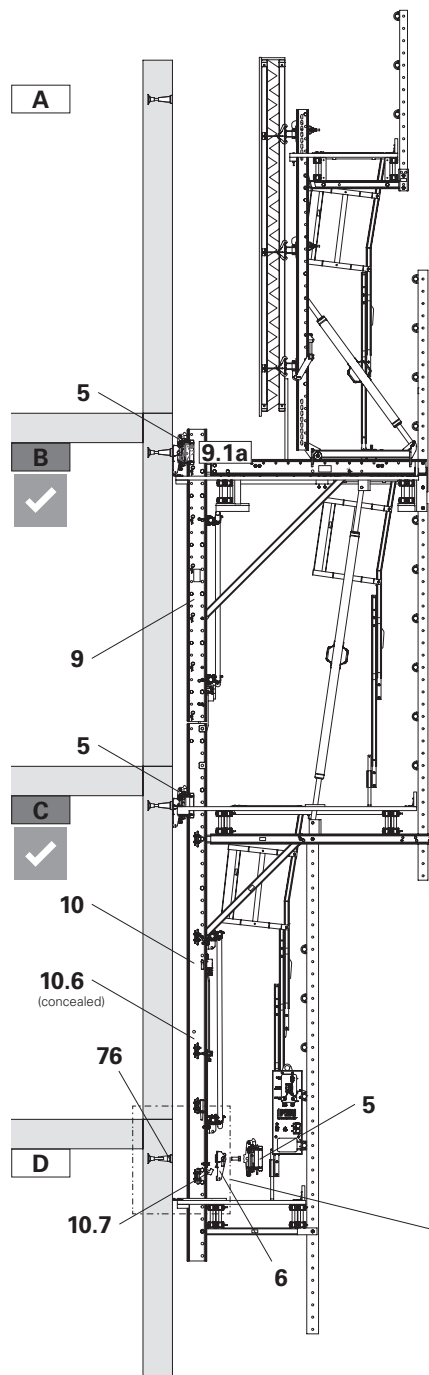

Fig. C4.06
1. Activate the climbing shoe (5) at position **B** and **C**.
- The climbing saw (10.6) hangs on the climbing shoe (5) at position **C** and lifts the climbing unit.
- The climbing unit hangs on the climbing shoe (5) at position **B** with the spacer (9.1a) of the climbing rail (9).
5. Remove the climbing shoe (5), wall shoe (6) and Climbing Cone-2 M30/DW 20 (76) at position **D**. Seal the tie holes, if necessary. (Fig. C4.06)